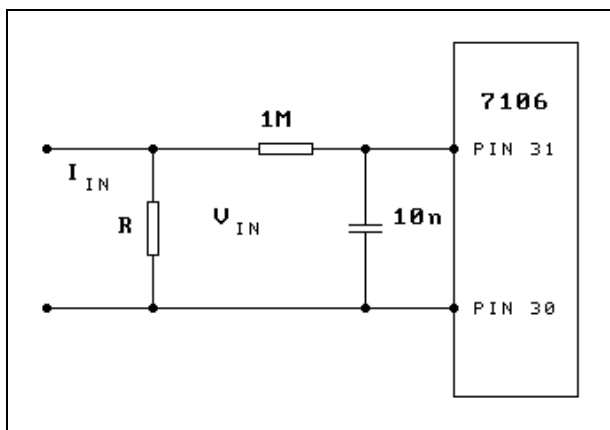

Figure 3. Principle of Current Measurement.
**Current Measurement.** The current must be converted into a voltage using a shunt resistor. Space is provided on the board to place up to a 5W shunt resistor R. The voltage divider resistors  $R_X$  and  $R_Y$  are not used. The principal is shown in Figure 3.